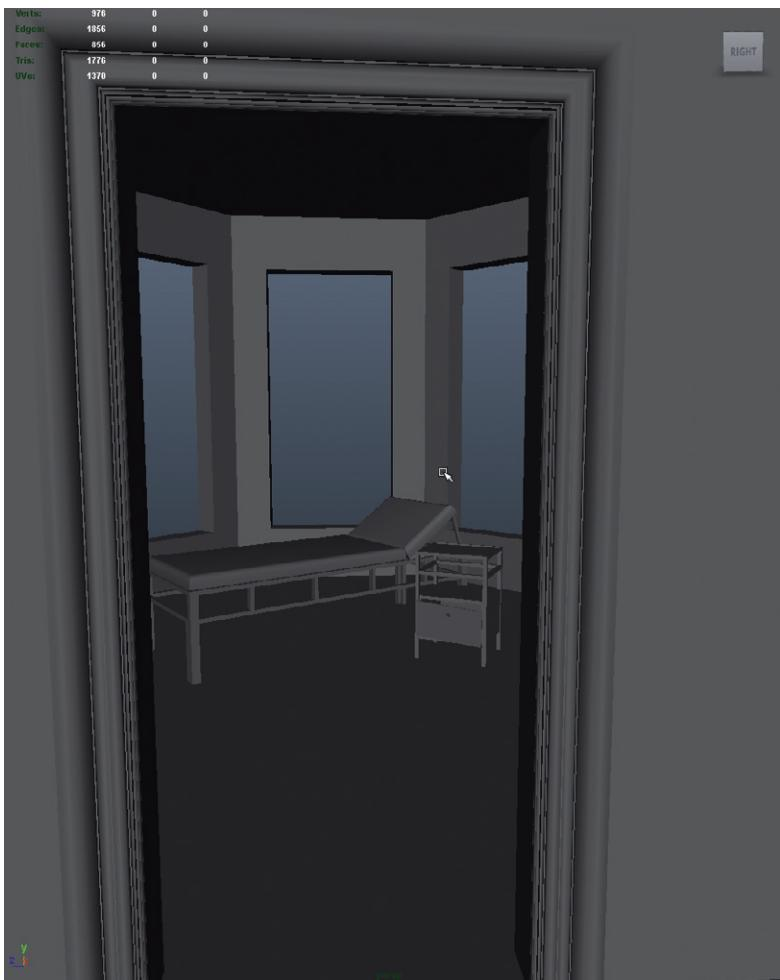

FIG 3.87 Additional placed assets.
Step 29: Repeat with other assets modeled (Fig. 3.87).